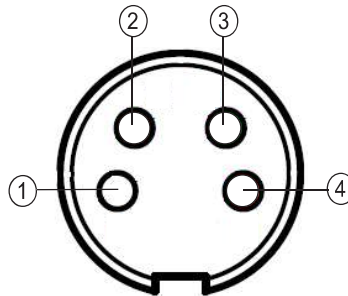

Figure 3-29: Shaft Encoder Connector Pin
**Note:** Figure 3-29 represents the view of the connector from the back of the printer.